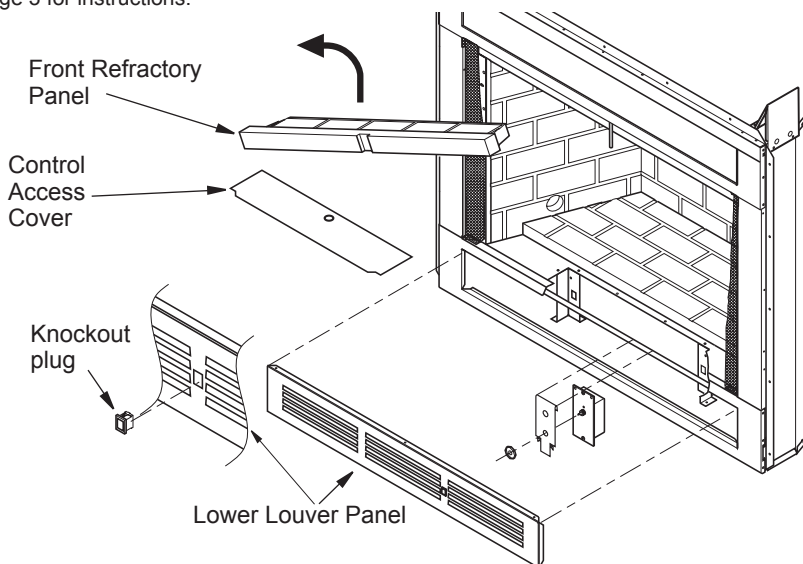

Figure 1: Accessing Blower Compartment (Controls Not Shown for Clarity) B-vent, Wood and Vent-Free Models
The BK blower can be installed in wood burning, B-vent and vent-free model fireplaces. Both the BK and BKT blowers can be installed in direct-vent model fireplaces. Blowers are installed by accessing the blower compartment through the lower louver panel or, on some models, through the control access cover under the front refractory panel (see Figure 1). The lower front louver panel can be removed easily, see *removing louver panel*, page 3 for instructions.
For models other than direct-vent, remove panel or stamped face louver by snapping out the front with a flat blade screwdriver (see Figure 1, page 2). Use caution not to scratch any surfaces. These panels can also be removed by inserting fingertips between slots and gently pulling out. DO NOT FORCE. The panels are actually held in place by means of a retention dimple embossed on the edge of the panel. To reinstall, place louver into cavity and push gently.
- Remove knockout plug from louver panel by depressing top and bottom retaining clips (see figure 1, page 2).
3. Remove knockout plug from louver panel by depressing top and bottom retaining clips (see Figure 1, page 2).